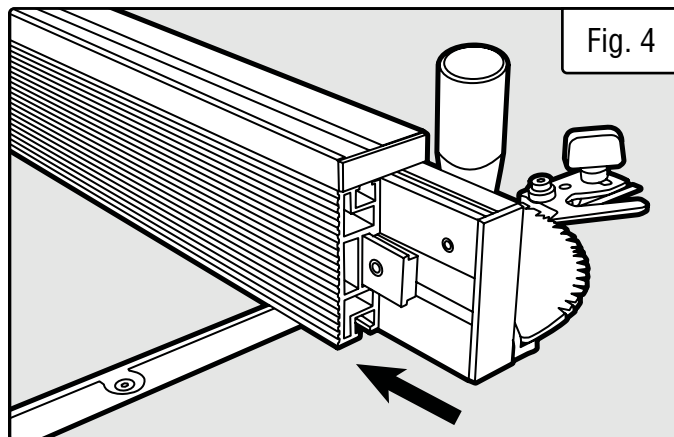

Fig. 4
5. Align the groove in the fence with the slide bars, then slide the fence on (Fig. 4). Replace the plastic cover.